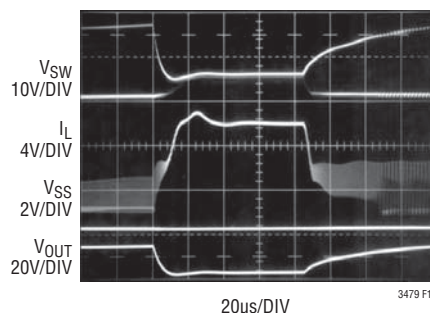

Figure 10. Output Overload with Inrush Current Protection Disabled
shows an output overload with inrush current protection disabled. Notice that soft-start remains high, and that the inductor current does not return to zero. Figure 10 illustrates the benefits of inrush current protection. The output short initiates a new soft start cycle reducing the inductor current. After the fault has passed, the inductor current slowly returns to its equilibrium value. To ensure bond wire integrity, the inductor current should not exceed 8A for more than 10ms.
Figure 10 is a line graph showing Efficiency (%) on the y-axis (ranging from 50 to 80) versus Load Current I_{OUT} (A) on the x-axis (ranging from 0 to 1.0). Three curves are plotted, representing different input and output voltage conditions: